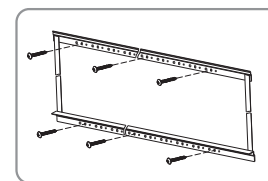

Figure 12
- Woody wall installation: Follow the screen installation step 3 and fix the $\phi 5 \times 40 \text{ mm}$ tapping screws to the holes in the top and down installation bars, three screws on each bar. (Figure 12)